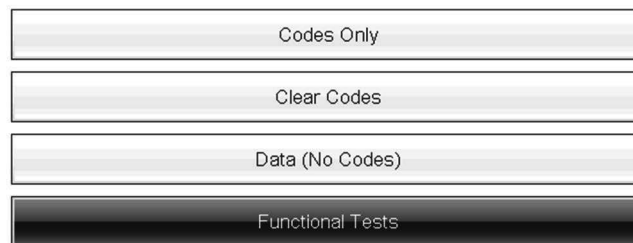

Figure 9 Typical - Main Menu - Functional Tests selected (Solus Edge/Modis Ultra)
2. Select **Functional Tests** from the Main menu (*Figure 9*).